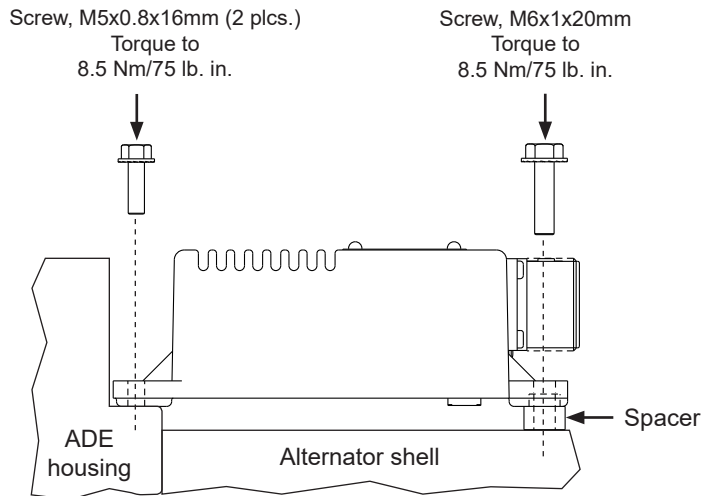

Figure 4: Install Regulator
1. Mount regulator on alternator anti-drive end housing and shell as shown in Figure 1 on page 1, using included hardware and spacer shown in Figure 4 below. Torque all mounting screws to 8.5 Nm/75 lb. in.